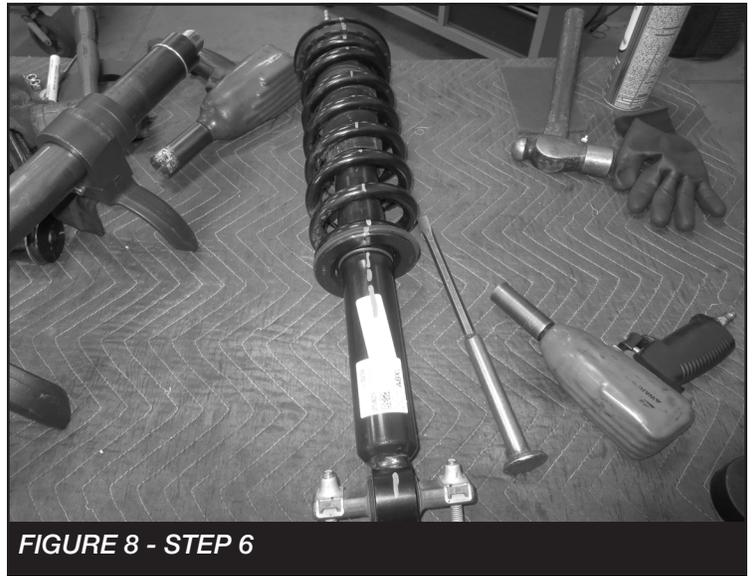

FIGURE 8 - STEP 6
6. Reinstall the lower spring mount, strut cap, dust boot and coil spring. Install the top mount using the factory nut. **NOTE: When tightening make sure the marks on the upper mount, body and lower mount are in line. Torque top nut to 25 ft-lbs. SEE FIGURE 8**